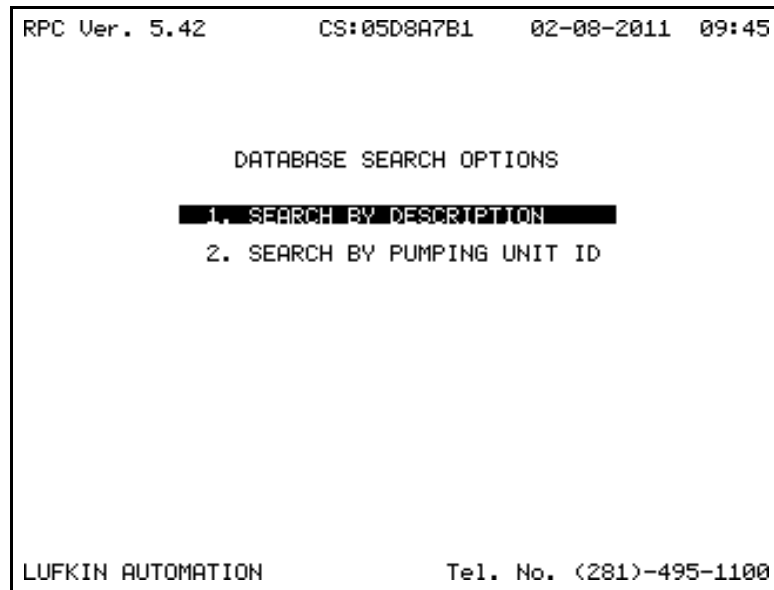

Figure 8-11. Database Search Options Menu Screen
1. Display the Pumping Unit Parameters screen (**MENU: 2/1/4**) and then select **1. DATABASE SEARCH** to display the Database Search Options Menu screen (Figure 8-11).
Note: The ID number shown in Figure 8-17 is the number used in the Search by Pumping Unit ID option available on the Database Search Options menu (Figure 8-11) shown on page 8-29.